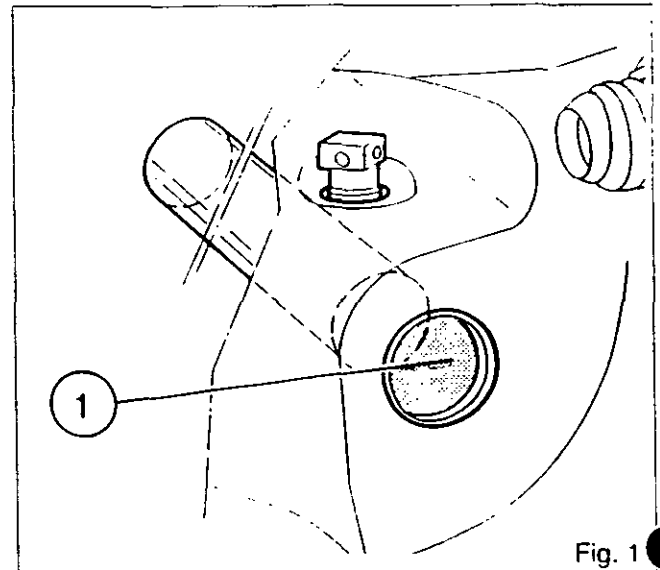

Fig. 1
- 8. Extract the insert (1) (Fig. 1).